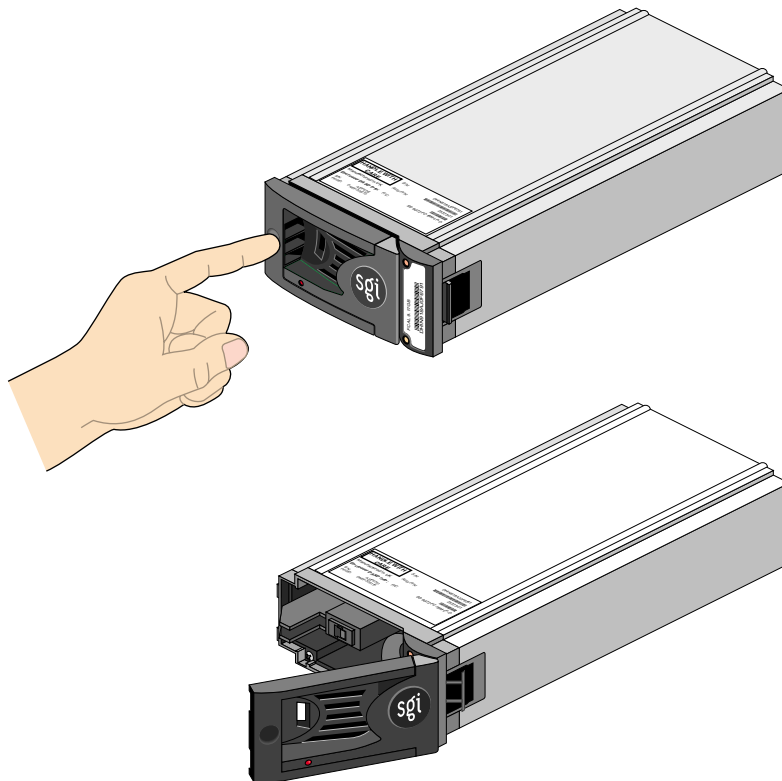

Figure 6-3 Releasing the Module Handle
4. Release the disk drive module handle by pressing on the small indentation on the left of the module front; see Figure 6-3.